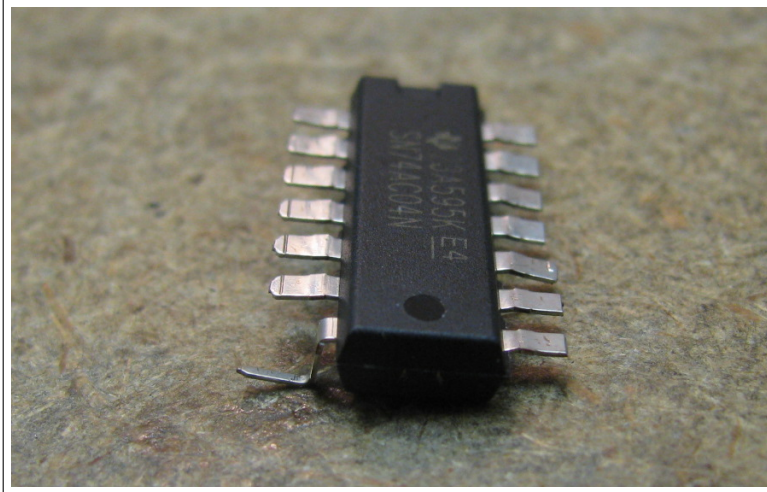

Figure 4: Bending IC legs dead-bug style
- You can support the IC above the ground plane by keeping pins 4 and 11 bent down and out like "legs". as shown below. This will make for easy soldering. Don't bend the pin (pin 7) shown in Figure 4!